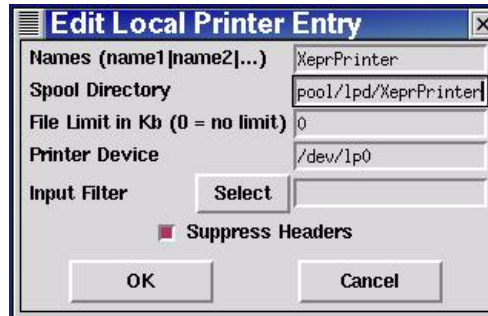

Figure 16-17 Naming the printer.
5. **Name the printer.** Type in a name for the printer in the Names box. (See Figure 16-17.) Avoid using spaces in the name. Change the Spool Directory to `/var/spool/lpd/<printerName>`. The Printer Device should match the detected device in the info box. Do not close this window yet. Instead, click the **Select** button next to Input Filter.